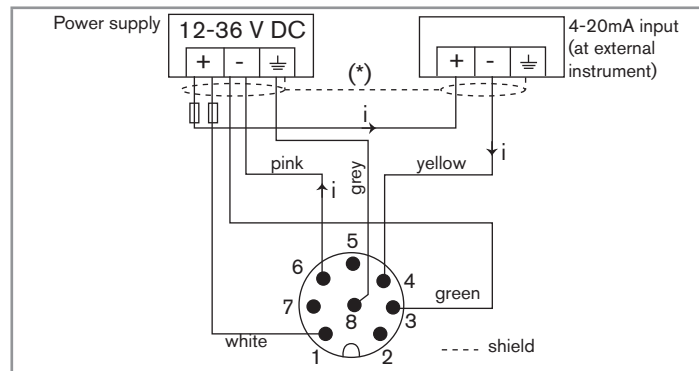
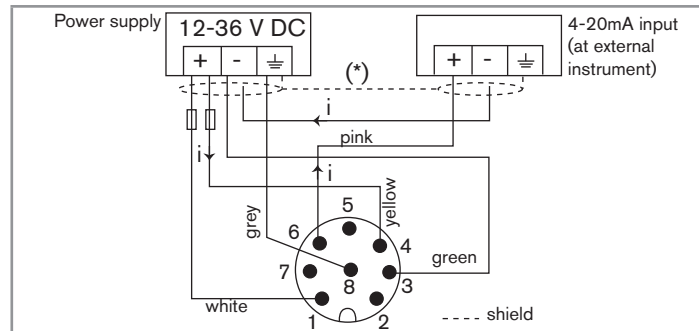

Fig. 30: Wiring of the current output, in sinking mode, of a version with an 8-pin M12 fixed connector
Fig. 31: Wiring of the current output, in sourcing mode, of a version with an 8-pin M12 fixed connector
The current output can be connected in either sourcing or sinking mode. See Fig. 30 and Fig. 31 for the related wiring charts.
(1) Use a voltage limiter depending on the load selected, e.g. for the solenoid valve, an EN 175301-803 connector with integrated varistor.
(2) If the current output is needed, wire the 8-pin M12 connector acc. to Fig. 30 if the current output is wired in sinking mode, or acc. to Fig. 31 if the current output is wired in sourcing mode.